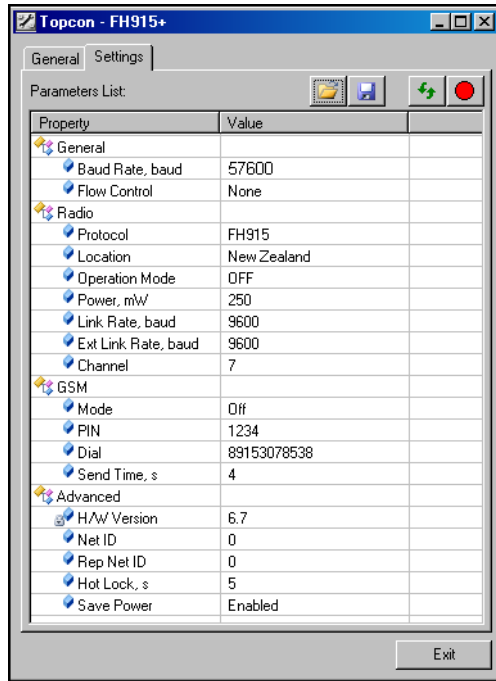

Figure 3-10. Settings - Settings Page
- Click on the *Settings* tab to open a list of settings of the modem. The *Settings* tab shows: *general* information about the modem type, software and hardware revisions, product code and serial number, and displays a list of settings for the modem (Figure 3-10 on page 3-11).
- The settings can be read-only (marked by the  icon) or changeable (marked by the  icon). Clicking on the corresponding line in the Value column opens a field to enter or select from the drop-down list a needed value (see Figure 3-10).